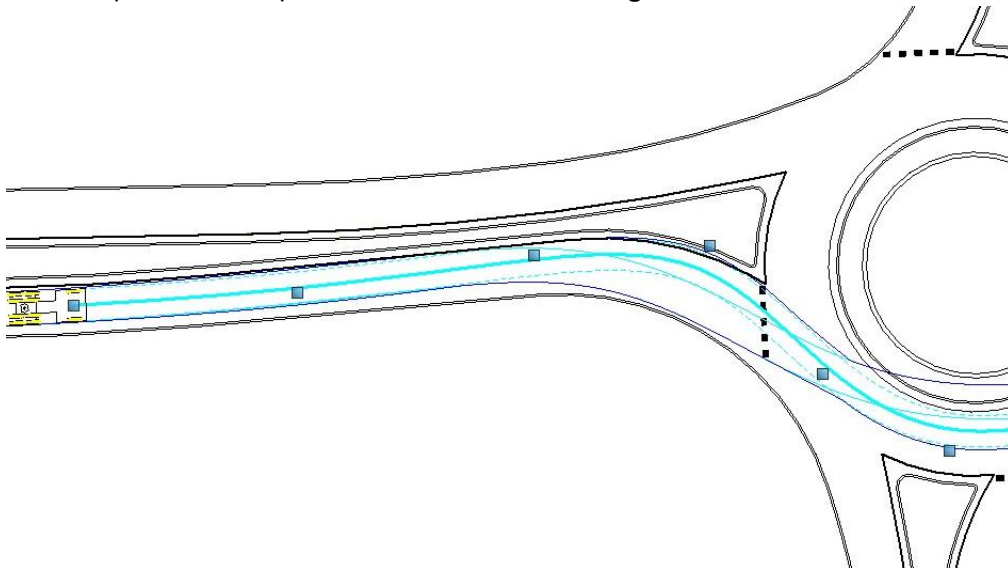

Figure 27 – Manipulating the Truck Path Spline
3. The spline can now be used to update the path of the vehicle by clicking on the spline and using the control points to manipulate it, which is shown in **Figure 27**.